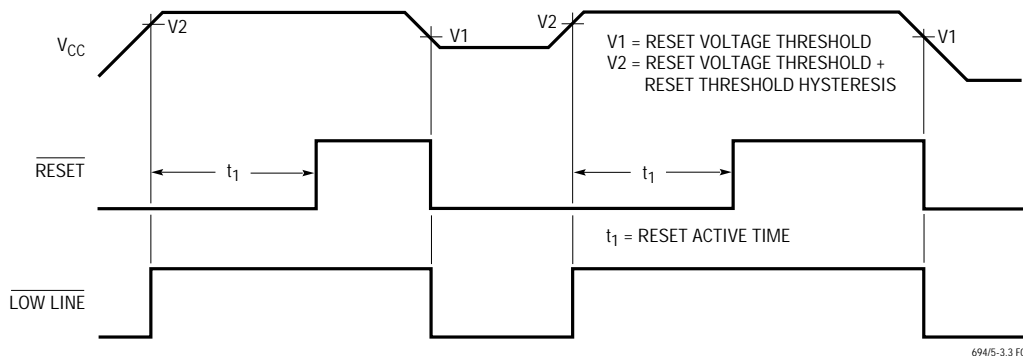

Figure 1. Reset Active Time
**LOW LINE**: Logic Output from Comparator C1. LOW LINE indicates a low line condition at the VCC input. When VCC falls below the reset voltage threshold (2.90V typically), LOW LINE goes low. As soon as VCC rises above the reset voltage threshold, LOW LINE returns high (see Figure 1). LOW LINE goes low when VCC drops below VBATT (see Table 1).
The LTC694-3.3/LTC695-3.3 use a bandgap voltage reference and a precision voltage comparator C1 to monitor the 3.3V supply input on  $V_{CC}$  (see Block Diagram). When  $V_{CC}$  falls below the reset voltage threshold, the  $\overline{\text{RESET}}$  output is forced to active low state. The reset voltage threshold accounts for a 10% variation on  $V_{CC}$ , so the  $\overline{\text{RESET}}$  output becomes active low when  $V_{CC}$  falls below 3.0V (2.9V typical). On power-up, the  $\overline{\text{RESET}}$  signal is held active low for a minimum of 140ms after reset voltage threshold is reached to allow the power supply and microprocessor to stabilize. The reset active time is adjustable on the LTC695-3.3. On power-down, the  $\overline{\text{RESET}}$  signal remains active low even with  $V_{CC}$  as low as 1V. This capability helps hold the microprocessor in stable shutdown condition. Figure 1 shows the timing diagram of the  $\overline{\text{RESET}}$  signal.